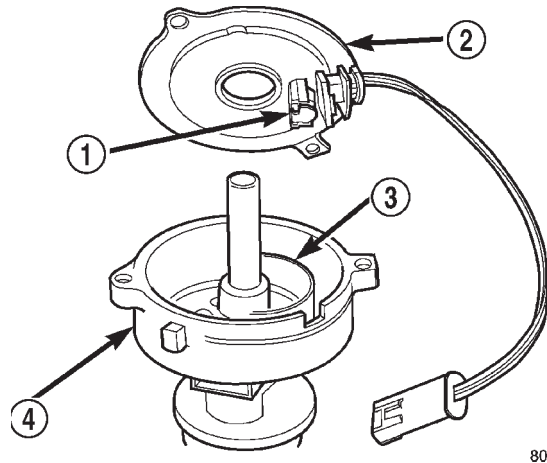

Fig. 29 Camshaft Position Sensor
The camshaft position sensor is located in the distributor on all 3.9L V-6 and 5.2/5.9L V-8 engines (Fig. 29).
- (1) Remove air cleaner assembly.
- (2) Disconnect negative cable from battery.
- (3) Remove distributor cap from distributor (two screws).
- (4) Disconnect camshaft position sensor wiring harness from main engine wiring harness.
- (5) Remove distributor rotor from distributor shaft.
- (6) Lift the camshaft position sensor assembly from the distributor housing (Fig. 29).